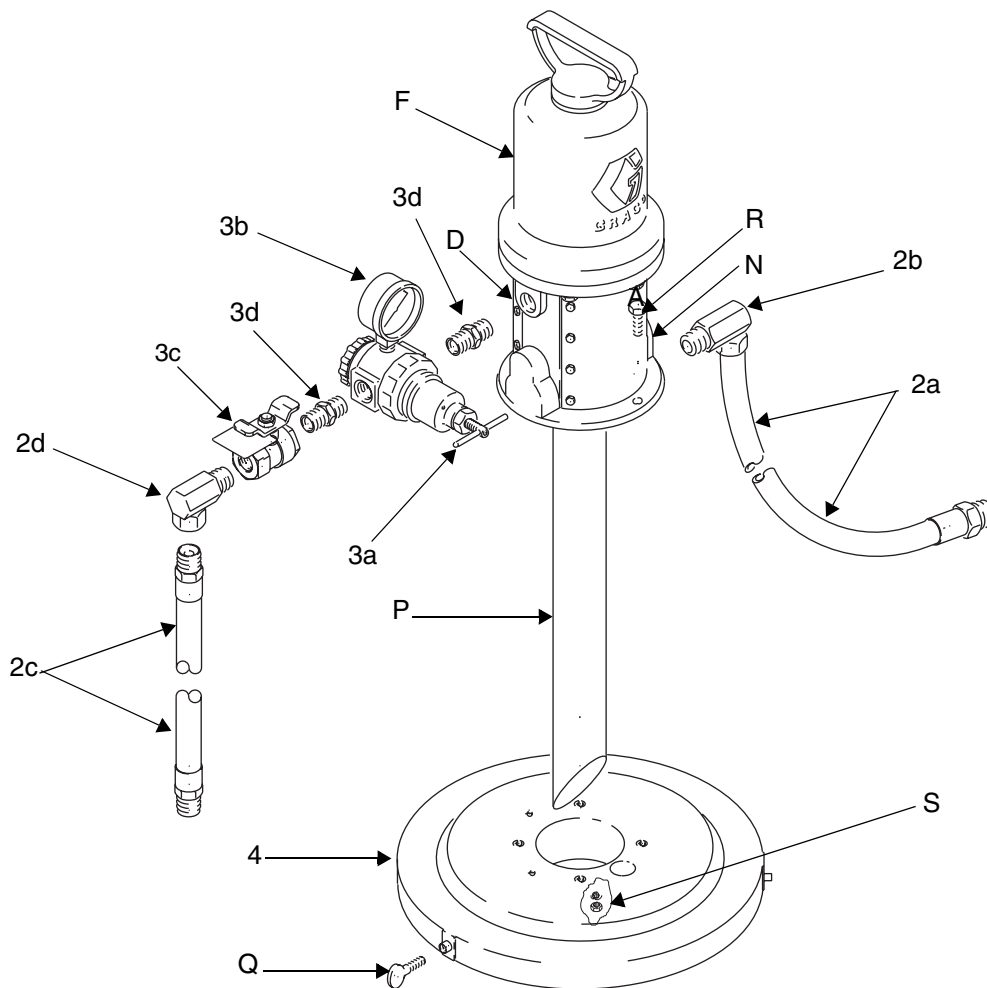

FIG. 5
1. Set the cover (4) on a 16-gallon (60 liter) drum and secure with the thumbscrews (Q). See FIG. 5.
2. For 246904 cut the extension tube (P) at a 45° angle to a length appropriate for the size of the drum. When installed, the bottom of the angle should be about 1" (25 mm) from the bottom of the drum. The down tube for 225094 is sized for the container.
3. Install the pump (F) on the cover (4) with the screws (R), washers and nuts (S) supplied.
4. Assemble the air regulator kit (items 3a-3d) to the pump air inlet (D) as shown. Use thread sealant and tighten all parts securely.
6. Apply thread sealant to the male threads of the 1/2 npt swivel union (2b). Screw the union into the pump fluid outlet (N).